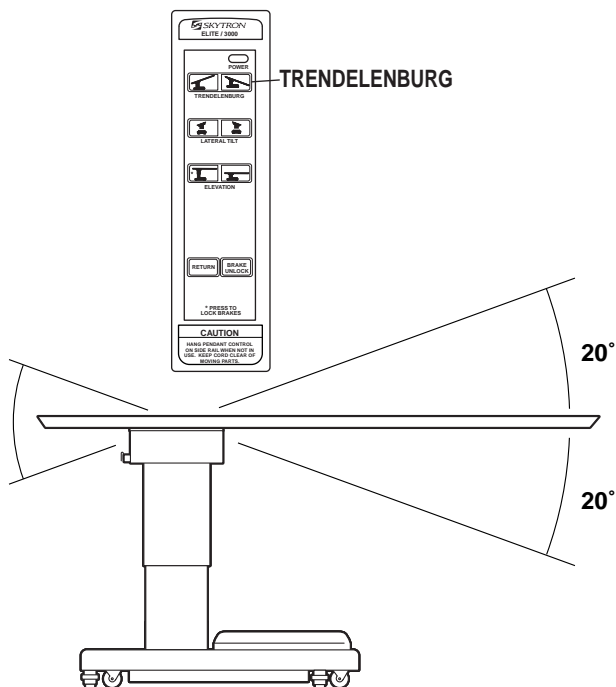

Figure 2-4. Trendelenburg Positioning
b. Trendelenburg. To achieve Trendelenburg positioning, press the appropriate TRENDELENBURG button (figure 2-4). Trendelenburg positioning of up to 20° may be obtained.